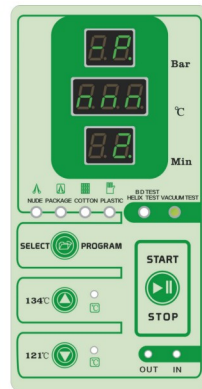

Fig.7.4-14
- (5)when the operation display window appear “2”,start balance with the air pressure, after 2 minutes,you press “start/stop” button,after you hear “ka”,you open the door.(Fig.7.4-14).If evaluation results is failure,please you check the seal leakage and pipeline leakage.